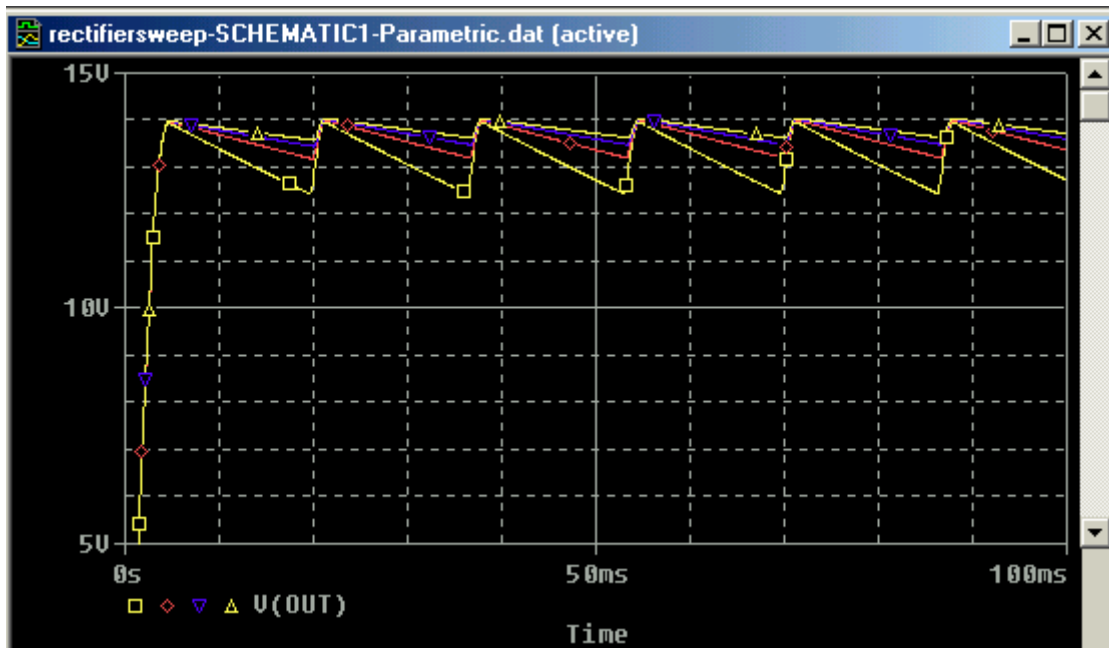

Figure 3.4.6: Results of the parametric sweep of the load resistor, varying from 250 to 1000 Ohm in steps of 250 Ohm.
- c. The multiple traces will show, as given in Figure 3.4.6.